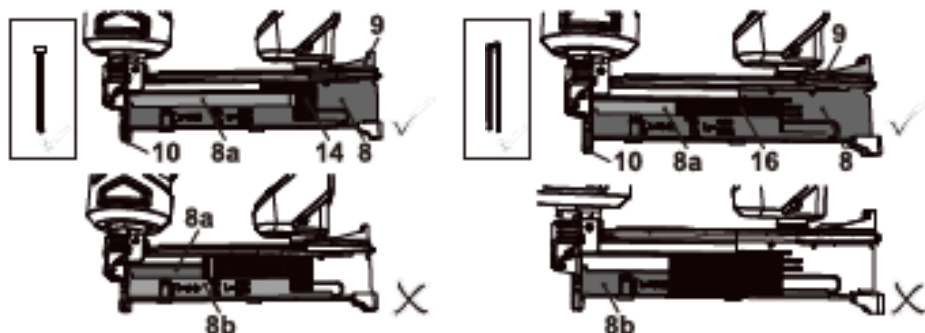

Fig. 3
4. Fill the magazine (8) with the required nail strip (14) or staple strip (15 / 16) (Fig. 3). Ensure that the nail or staple tips are pointing towards the base of the product.
**WARNING!** Make sure to place the nail strip (14) under the inner barrier (8a), not between the inner barrier (8a) and the outer barrier (8b). Make sure to slide the staple strip (15 / 16) upon the inner barrier (8a), not upon the outer barrier (8b).